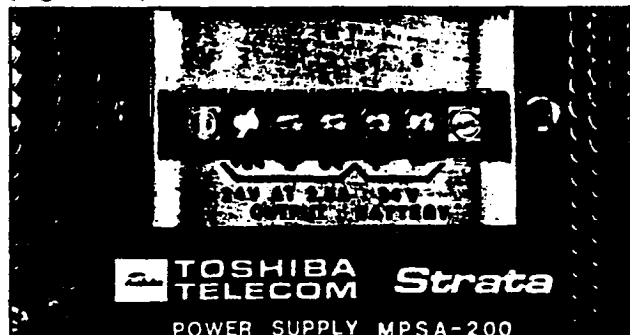

FIGURE 10—MPSA TERMINAL STRIP
02.12 Remove the MPSA terminal strip cover (Figure 10).